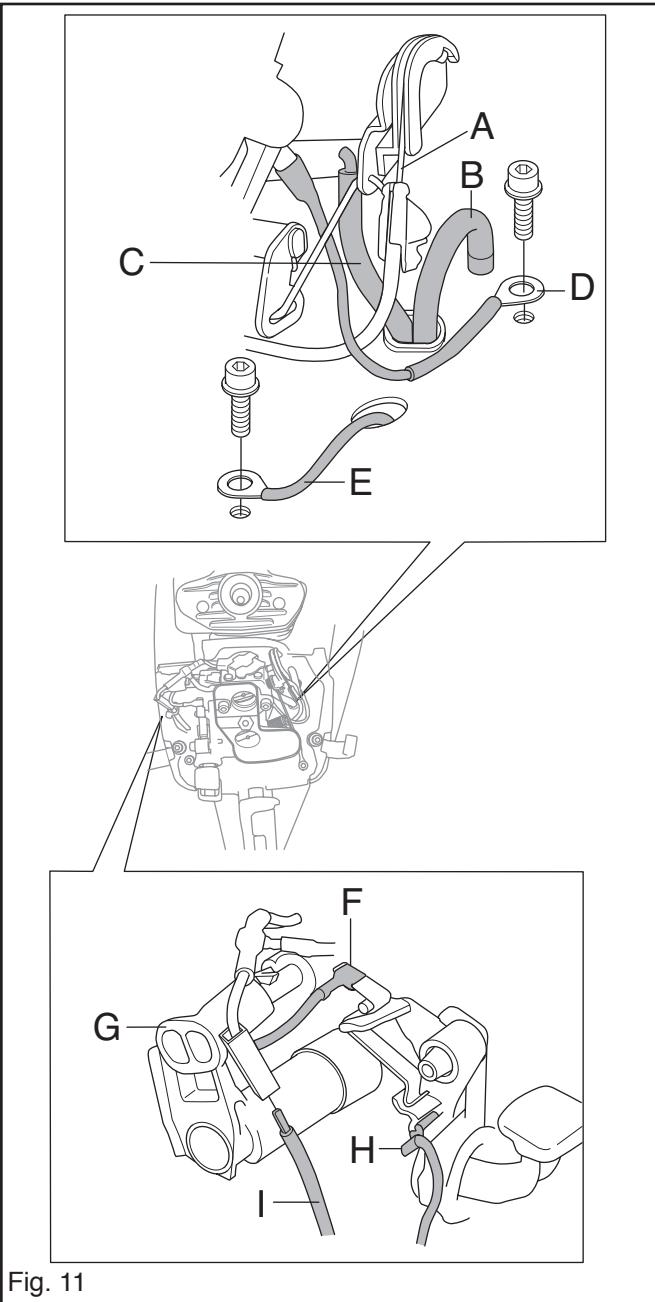

Fig. 11
4. Dismantle the throttle cable (A), impulse hose (B), fuel hose (C), earth cable (D) and (E). See fig. 11.
5. Dismantle the sleeve on the carburettor adjustment, short-circuit cables (F) and (H). Loosen the cable (I) on the carburettor heater. See fig. 11.